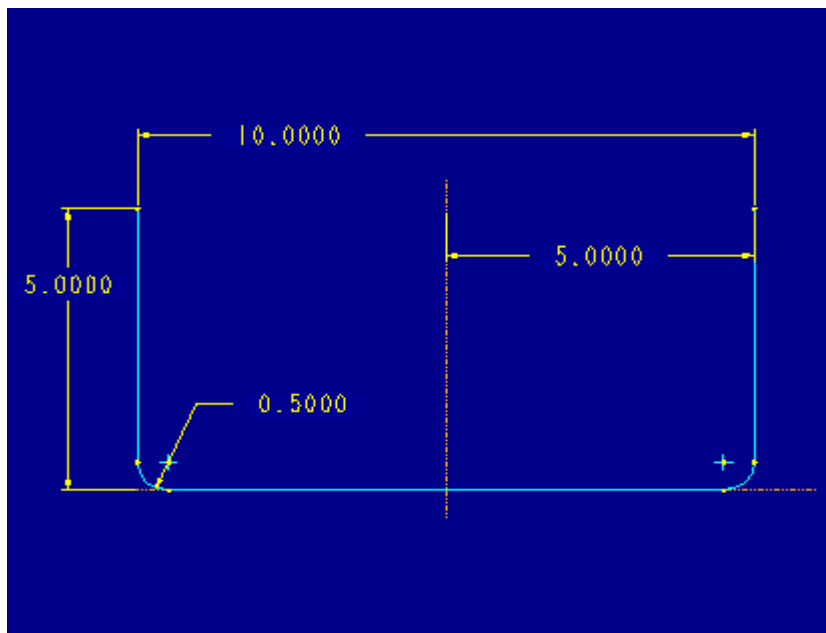

Figure 2
2. **Sketch** the section shown in Figure 2. **Regenerate** the sketch and select **Done**. Orient the arrow using **Flip** and select **Okay** when the arrow is pointing inside the sketch. Input a thickness for the sheetmetal part and select **Blind** and **Done** for the depth. Input a value for the depth and select **Okay** from the dialogue box.